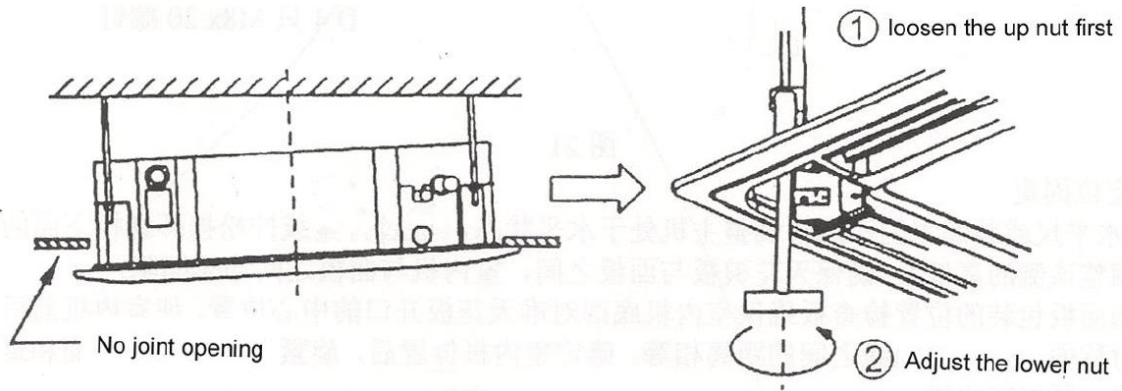

Fig 14
- After tightening bolts, if there is still a slit between the ceiling and the panel, adjust the height of the unit again (See the left one of Fig 14);
- If lifting and declining the unit and the length of drain pipe is not limited, you can adjust the height of indoor unit through the opening at the four corners (See the right one of Fig 14)